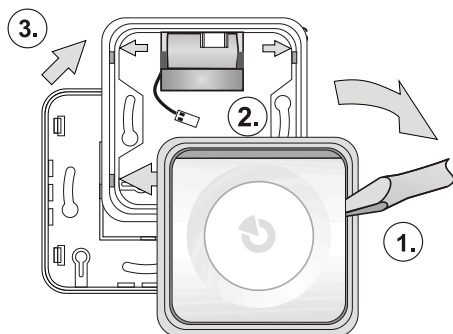

Figure 1: Disassembly of the siren before installation
1. Remove the body (buttons) of the siren from the plastic frame by pressing on a side of the body (1.) using a screwdriver as shown in figure 1.
4. Attach the plastic base to the selected place using screws. If the siren uses a battery, place it underneath the top side of the plastic base as shown in figure 1.